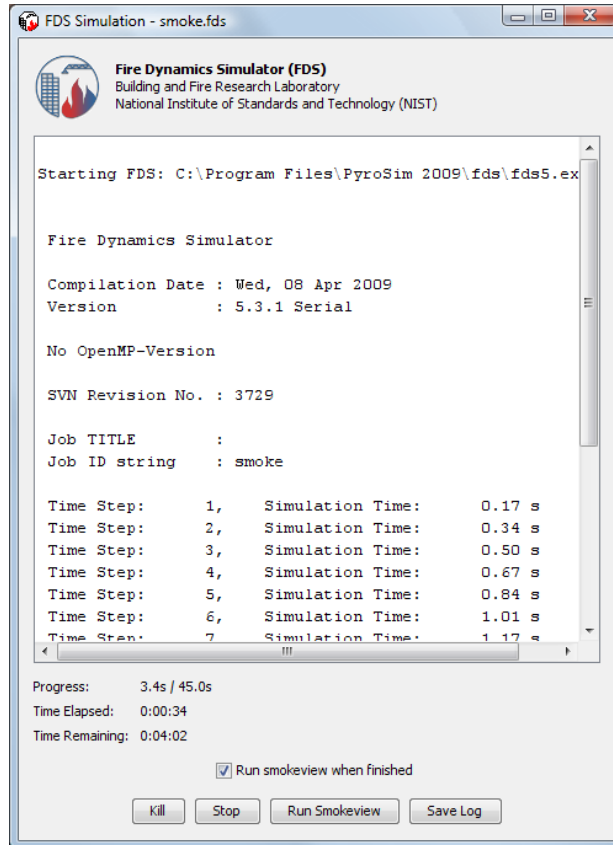

Figure 5.8. The simulation dialog during the analysis.
4. The **FDS Simulation** dialog will appear and display the progress of the simulation. By default, PyroSim specifies a 10 second simulation. This should take approximately 1 minute to run depending on computing hardware, Figure 5.8.